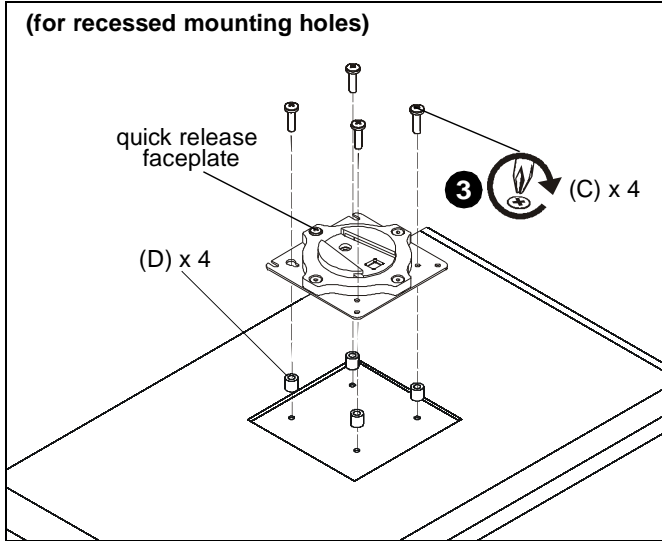

Figure 4
- Place four spacers (D) on top of mounting holes on back of display. (See Figure 4)
- Using Phillips screwdriver, carefully install four M4x20mm screws (C) through corresponding holes on faceplate, spacers (D) and into the mounting holes on the display. (See Figure 4)